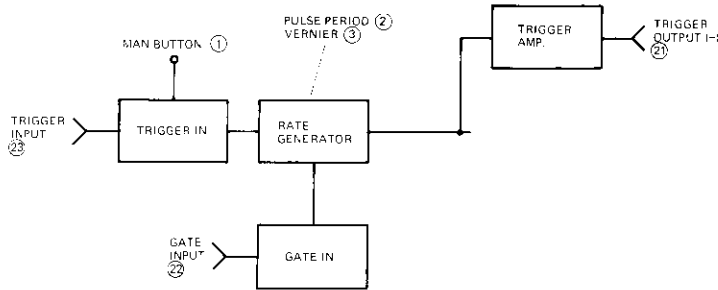

Figure 3-22. Independent clock generator in RZ/EXT WIDTH modes – block diagram
can be triggered internally, externally or manually and can also be gated as in the normal operating mode. If this facility is not required, it can be switched off by setting the PULSE PERIOD control (2) to EXT and disconnecting the TRIGGER INPUT (23). The circuits and controls involved in this facility are shown in Figure 3-22.